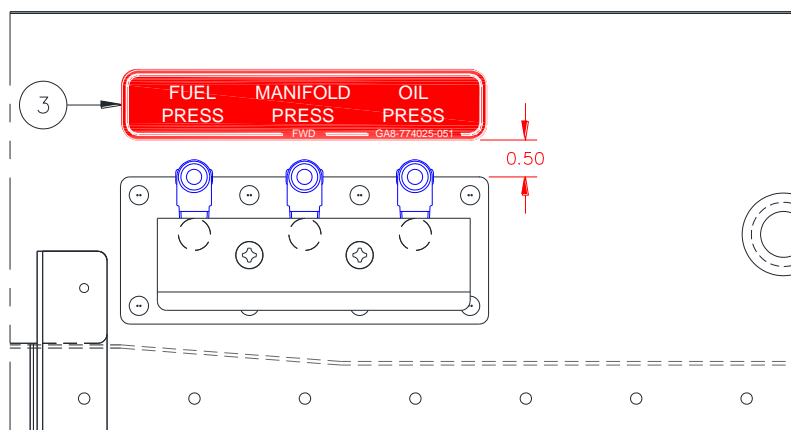

Figure 7: View looking aft at the forward face of the firewall. Dimension is in inches.
- Affix Item 3 to the forward face of the firewall as per Figure 7. Note that a similar placard is no longer required on the aft face of the firewall.